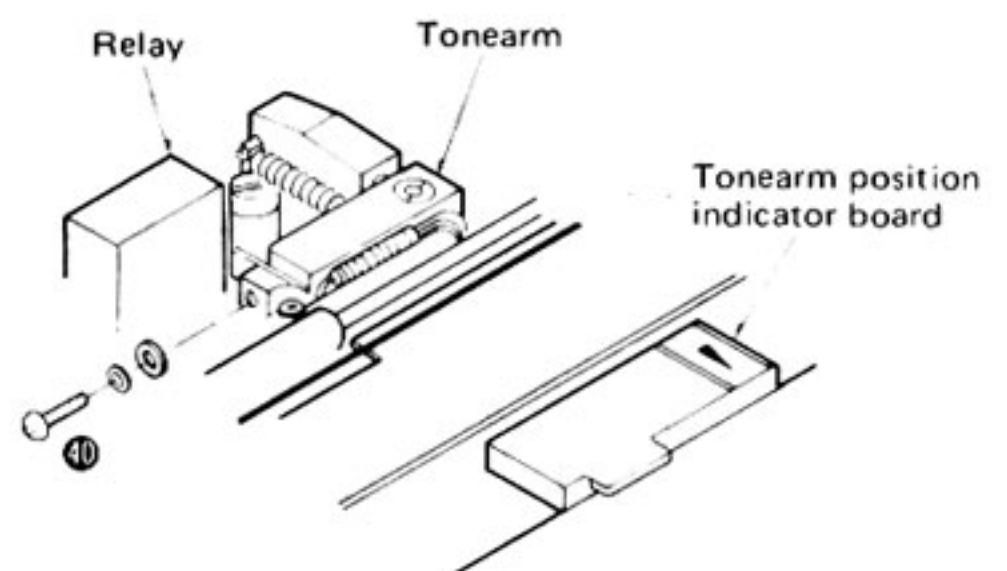

Fig. 12
4. Remove the tonearm setscrew (Fig. 12: 40).